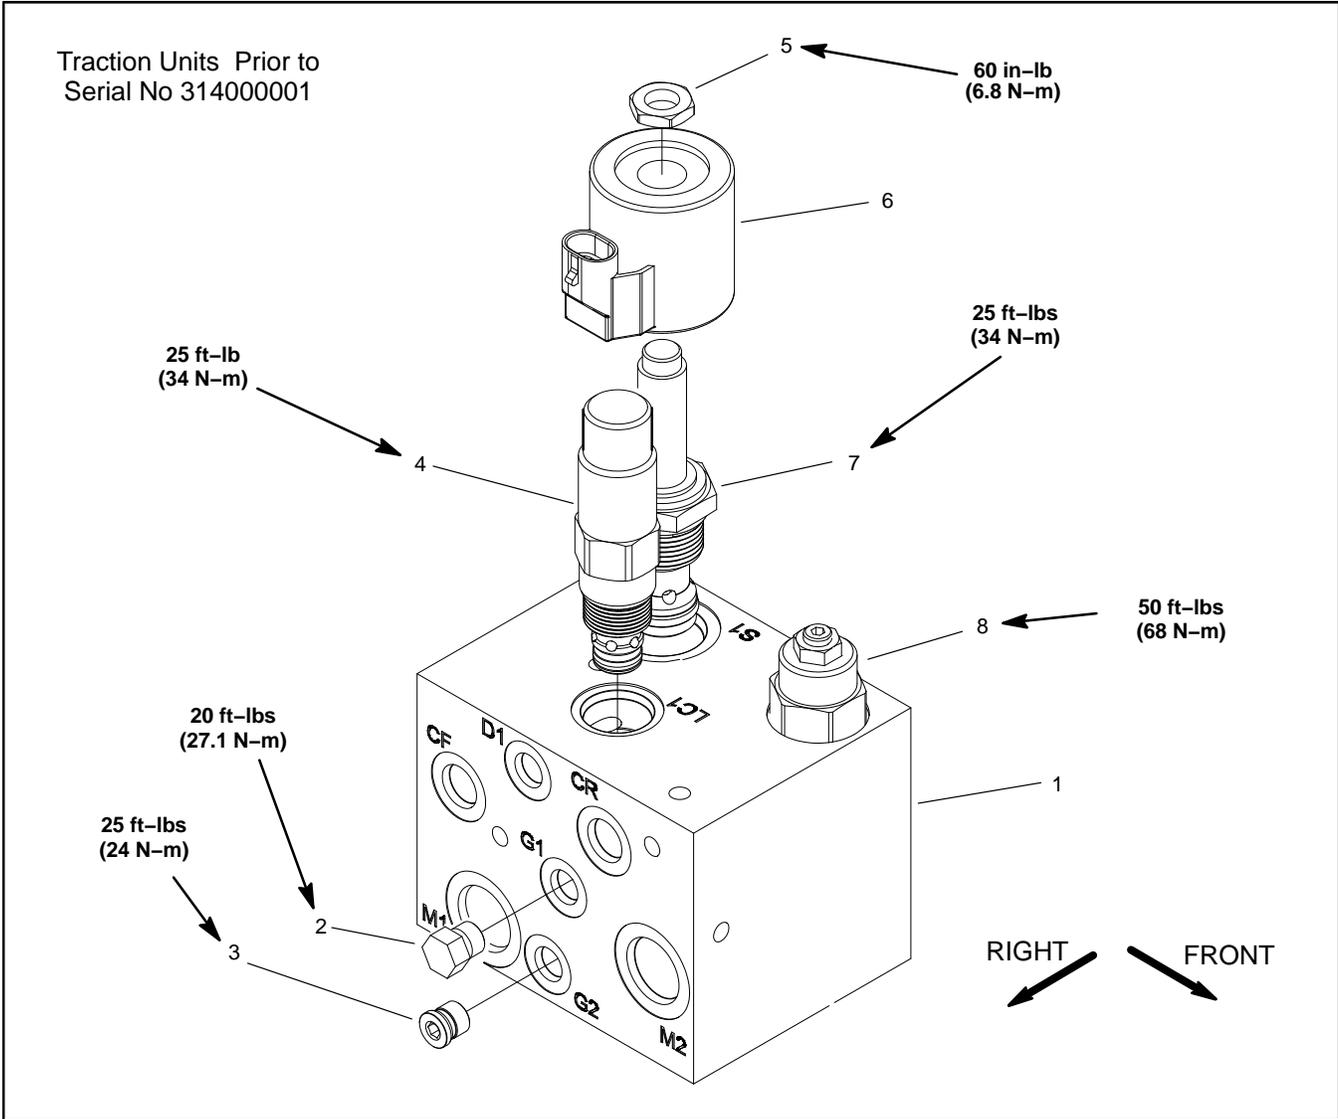

Figure 67
Cartridge Valve Service (Fig. 67 and 68)
- C. Torque cartridge valve using a deep socket to valve identified in manifold illustrations (Fig. 67 and 68).